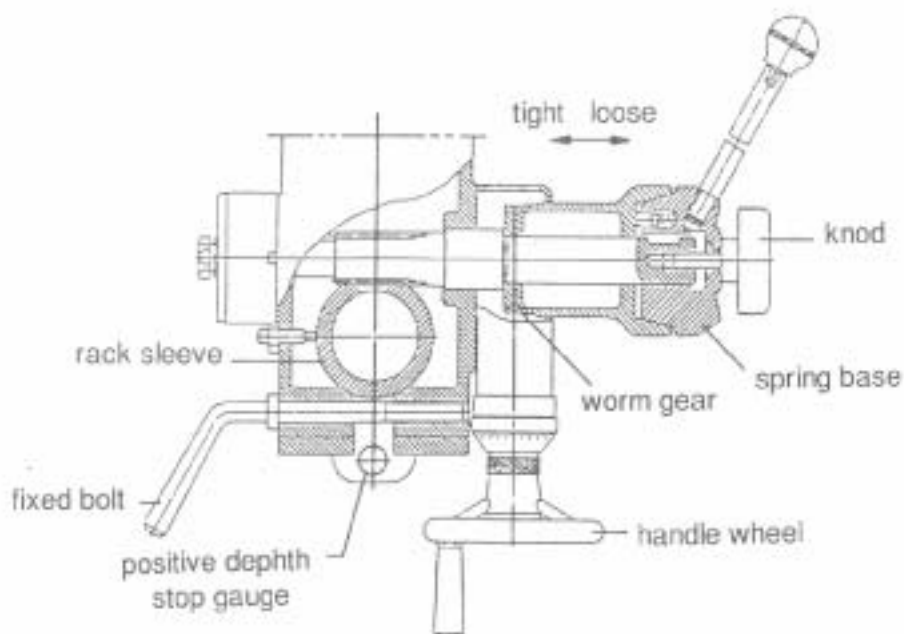

Fig.2.
- (4) Preparing for Drilling (see fig. 2)(Except addition power feed system).
- (5) Preparing for Milling (see fig. 2)(Except addition power feed system).